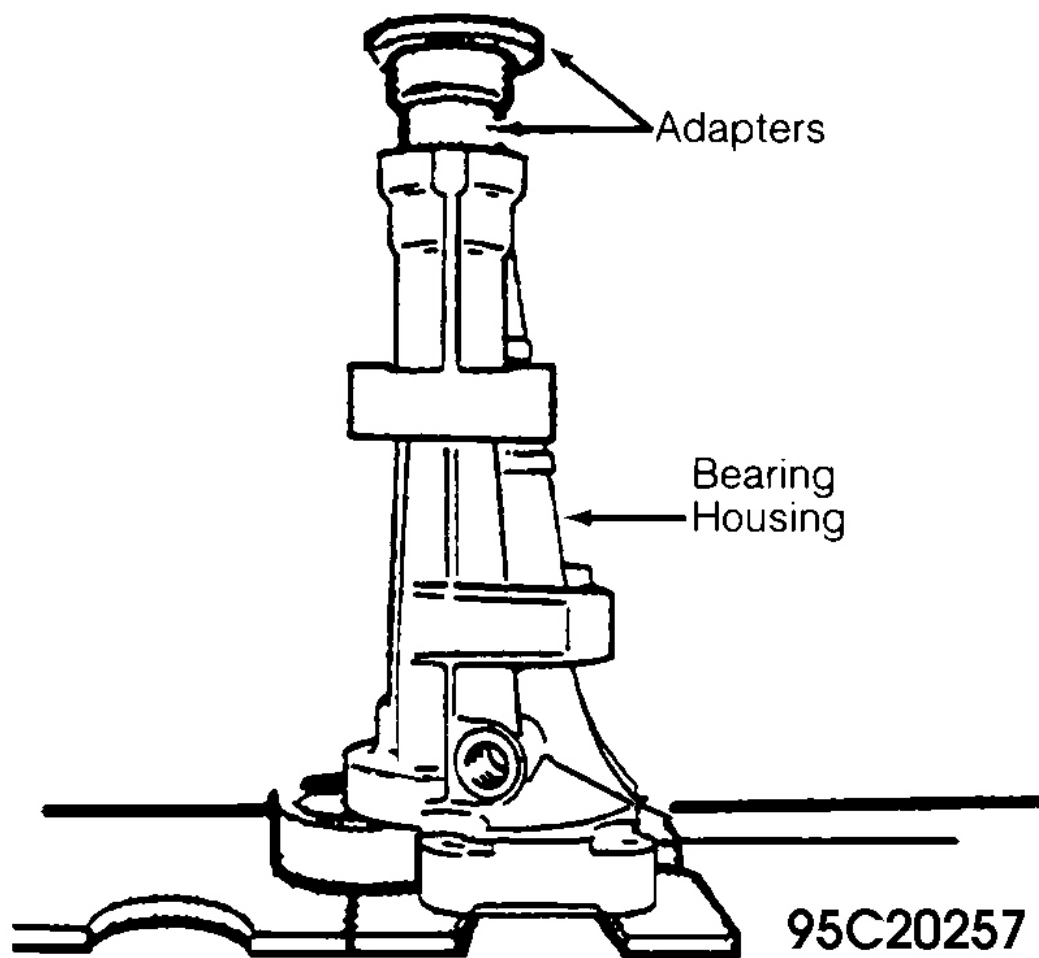

Fig. 62: Installing Axle Needle Bearings
6. Using press and adapters, install axle needle bearing in bearing housing. See **Fig. 62** . Install axle needle bearing circlip and seal.